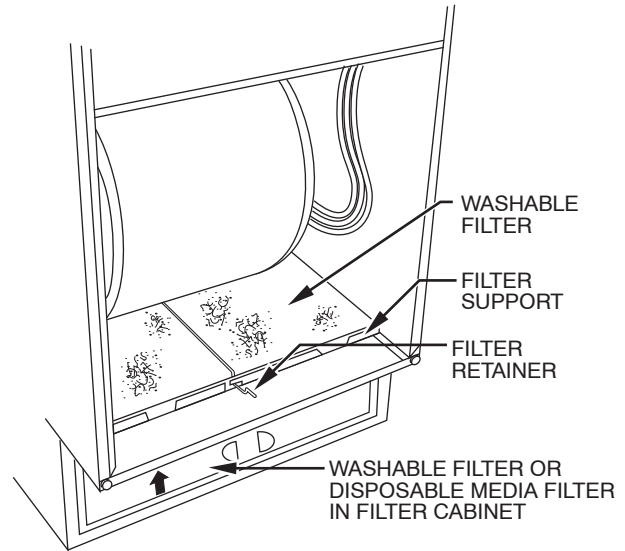

Fig. 3 - Bottom Filter Arrangement
3. Slide filter out of cabinet. See Fig. 3 or 4.
3. Release filter retainer wire. (See Fig. 3 or 4.)
NOTE: Filters shown in Fig. 3 and 4 can be in furnace blower compartment or in filter cabinet, but not in both.